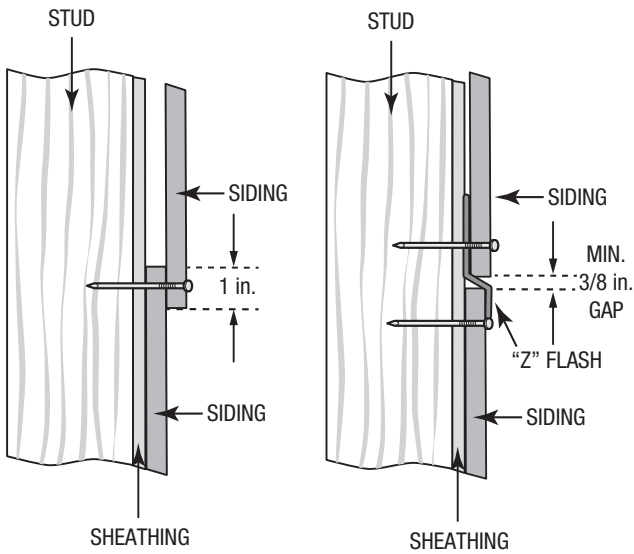

Figure 4
- At horizontal joints with stacked panels or other types of siding, overlap siding 1 in. or use Z flashing and fasten as shown (see Fig. 4).